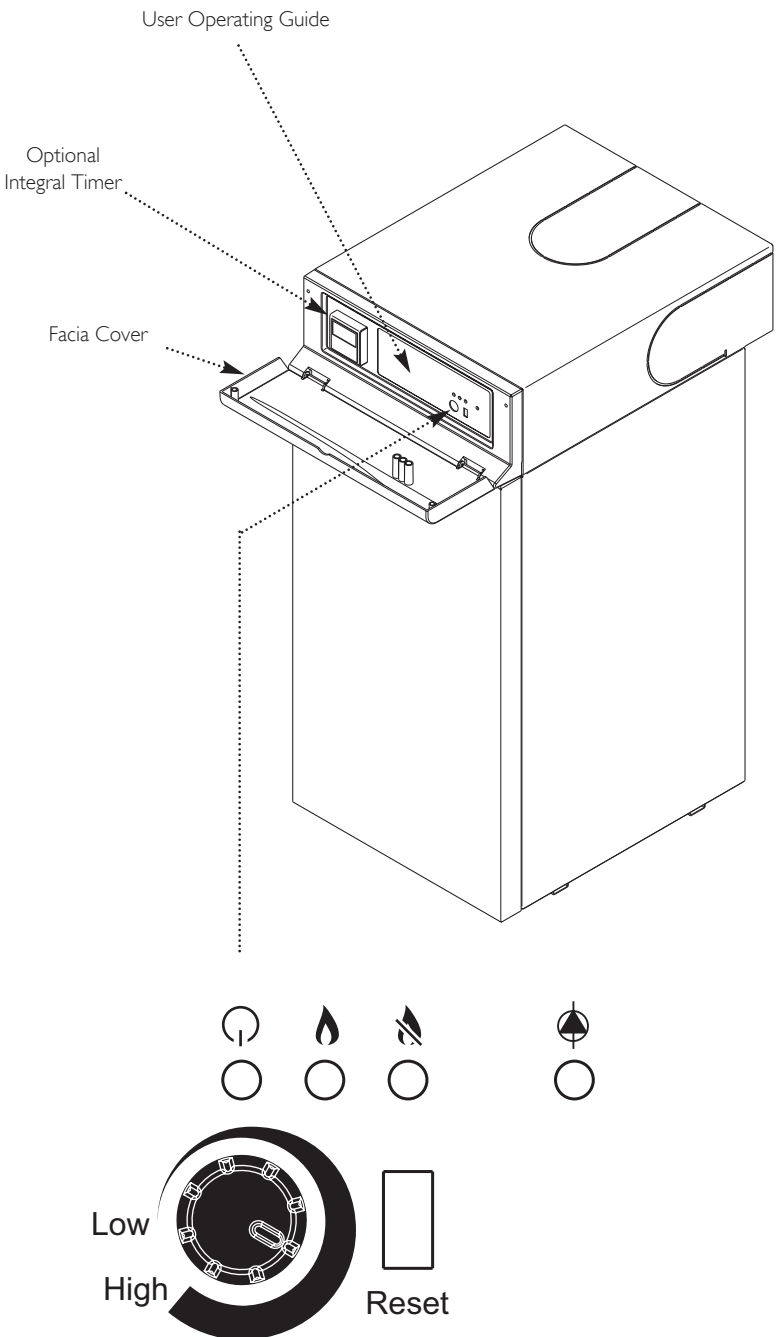

Fig. 1
1. Hinge down the facia cover (Fig. 1).
2. Turn on the main gas and electricity supplies to the boiler. The Mains On light (Ⓞ) will illuminate green (Figs. 1 & 2).
3. Set the central heating control knob to the required setting (Fig. 1). (The optimum boiler setting depends upon type of system, external controls and your requirements. Your installer will be able to advise you on this matter.)
4. When the system control(s) call for heat the fan will start to run and after a short period the ignition spark will commence. Sparking will continue until the flame is established then stop automatically. Check that both the Mains ON light (Ⓞ) and Boiler ON light (🔥) are illuminated green (Figs. 1 & 2).